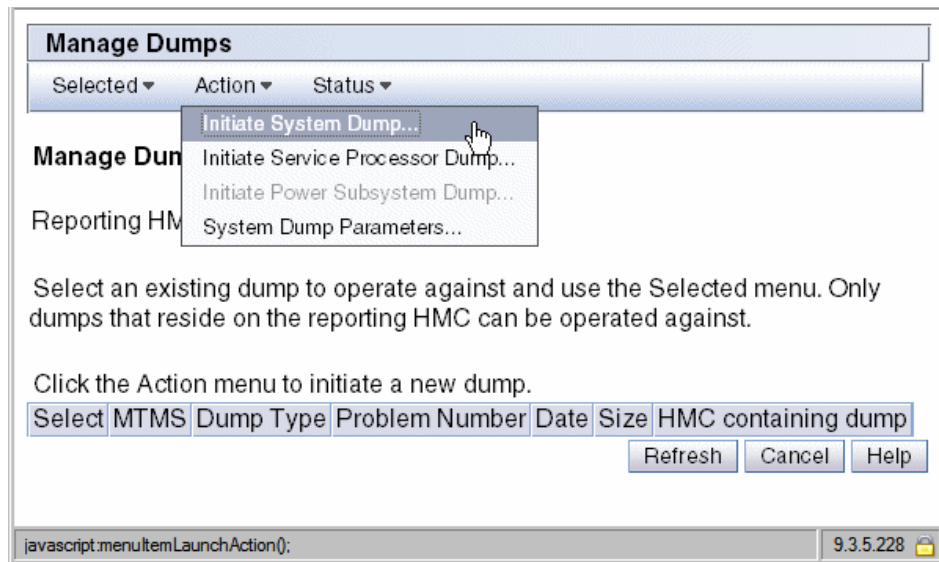

Figure 12-17 Service Management, initiate system dump
2. In the Manage Dumps window, select **Action** → **Initiate System Dump**, as shown in Figure 12-17.